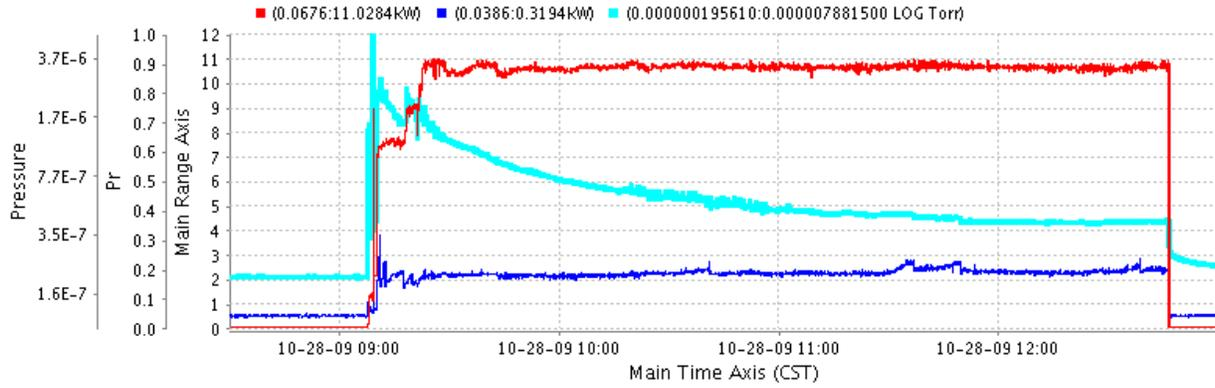

Figure 1: Forward and reverse power (red and blue), and pressure (cyan = ion gauge) during the final 4 hours of conditioning.
- *10/28/09*: Continued to condition at 10.7kW, 3ms, 2Hz. Conditioned for about 4 hours before the scheduled power outage. No more multipacting was visible in the coupler after about 2 hours of conditioning. No sparking was observed. We will skip the full eight hour run this time since 1.) The cavity operates well and 2.) We need to move on with RFQ conditioning and proceed with cave work. Plots for 10/28 are shown in Figure 1.